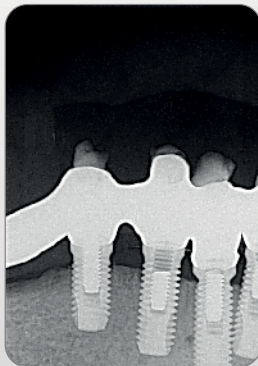

Figure 3.
- Abutment with fractured threads (Figure 3).